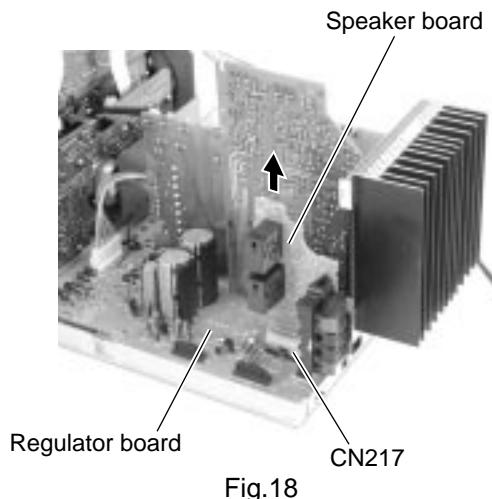

Fig.18
■ Removing the speaker board (See Fig.18)